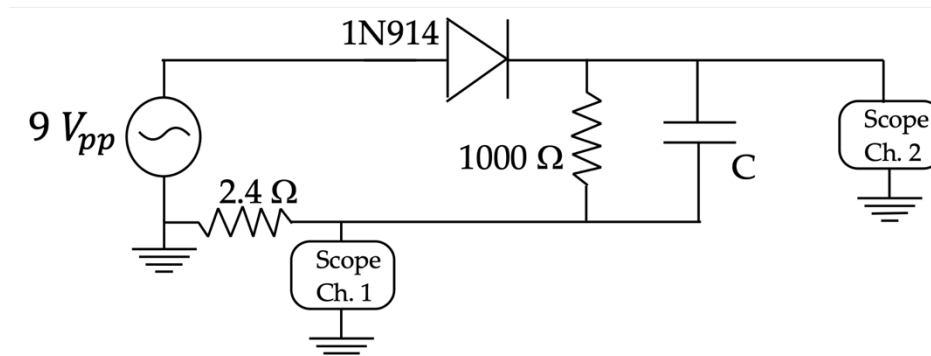
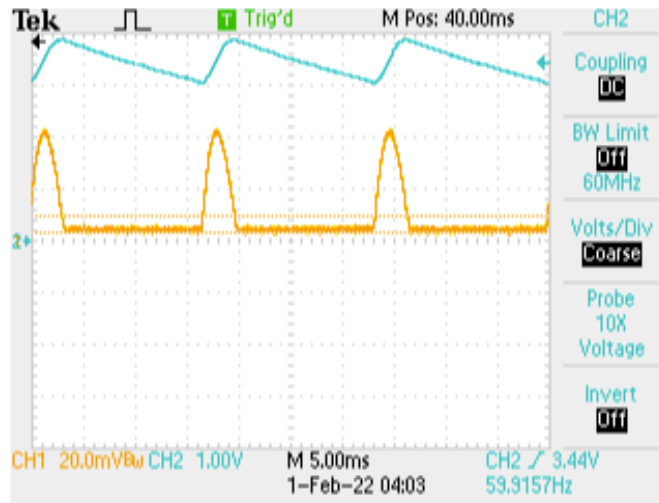

Figure 7. Half-wave rectifier circuit.
Figure 8. Half-wave rectified signal and ripple voltage.
- The largest application for diodes is rectification, for use in AC to DC power conversion. Keep your op amp circuit from the previous step (you'll need it later) and on a different part of the protoboard, build the circuit shown in Figure 7. Do not include any capacitor in the circuit initially. *Measure and record the value of both resistors.*
- Connect a 33 μF capacitor to the circuit, as shown in Figure 7. The capacitor is electrolytic, meaning it has a polarity. Make sure you connect the positive lead of the capacitor to the diode and the negative lead of the capacitor to the 2.4 Ω resistor. Adjust the trigger voltage (small knob on the right side of the scope) to retrigger the signal, if needed. You should see a curve similar to what is shown in Figure 8. *Capture the screenshot AND data for both Channel 1 and Channel 2 using the Tek Open Choice Desktop program.*